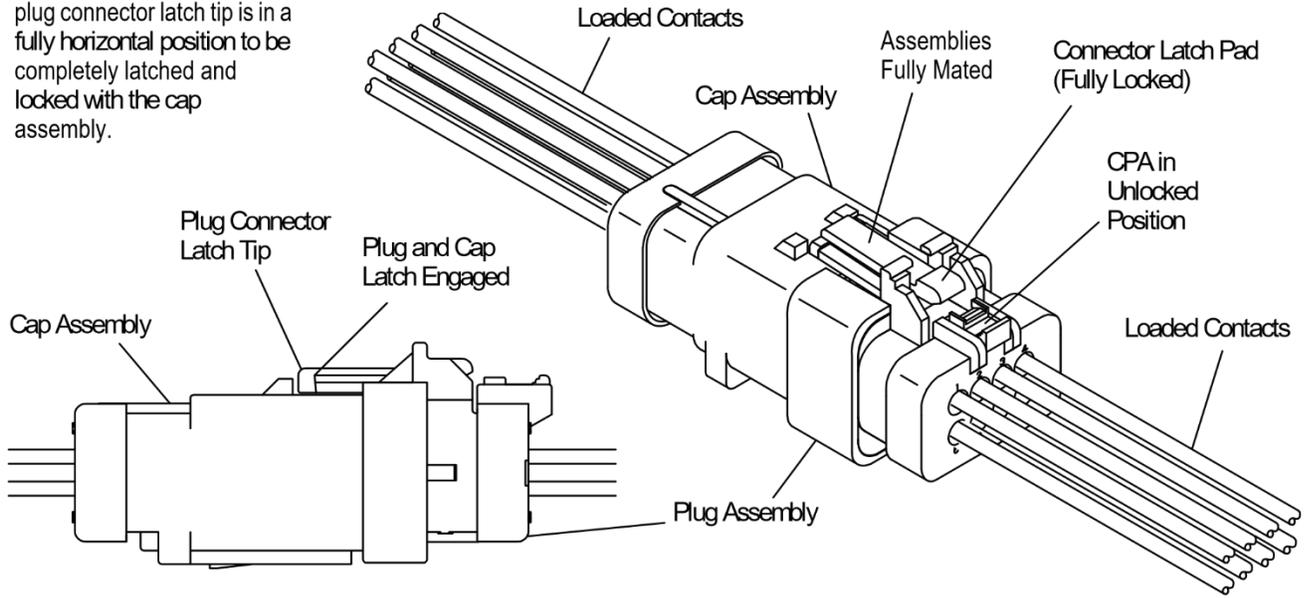

Figure 9
6. When all the contacts have been locked securely into the housing assemblies, complete the assembly of the connector system by mating the plug assembly with the cap housing assembly or pc board mounted header until the connector latch is in the fully locked position. An audible “click” will be heard. See Figure 9.